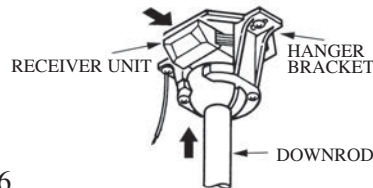

FIG.6
2. Carefully lift the fan and seat the downrod and ball assembly on the hanger bracket. Be sure the groove in the ball is lined up with tab on the hanger bracket. Do not pinch wires between the ball and downrod assembly and hanger bracket (see Fig.6)